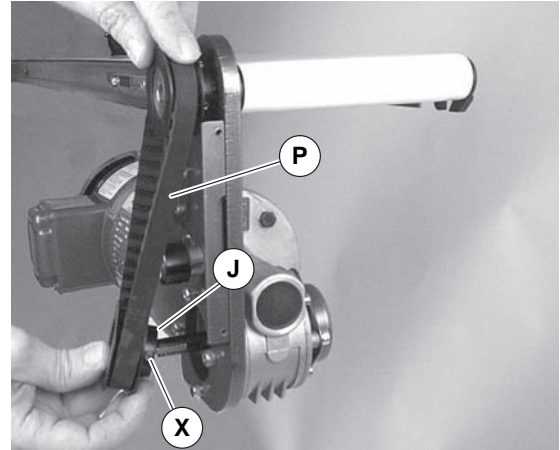

Figure 20
If drive pulley (Figure 20, item J) is replaced, wrap timing belt around drive pulley and complete step 3.
3. Loosen drive pulley set screws (Figure 20, item X). Remove drive pulley (J) and timing belt (P).
Drive pulley (Figure 20, item J) is removed. Wrap timing belt around drive pulley and complete step 13.